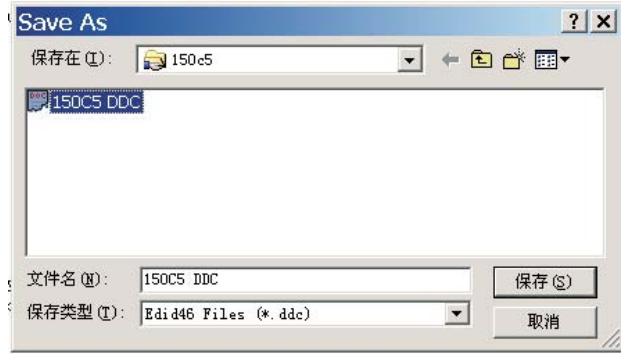

Fig. 26
1. Click (Save) icon (or click "file"-> "save as") from the tool bar and give a file name as shown in Fig. 26. The file type is EDID46 file (\*.ddc) which can be open in WordPad. By using WordPad, the texts of DDC data & table (128 bytes, hex code) can be modified. If DDC TEXTS & HEX Table are completely correct, it can be saved as .ddc file to re-load it into DDC IC for DDC Data application.